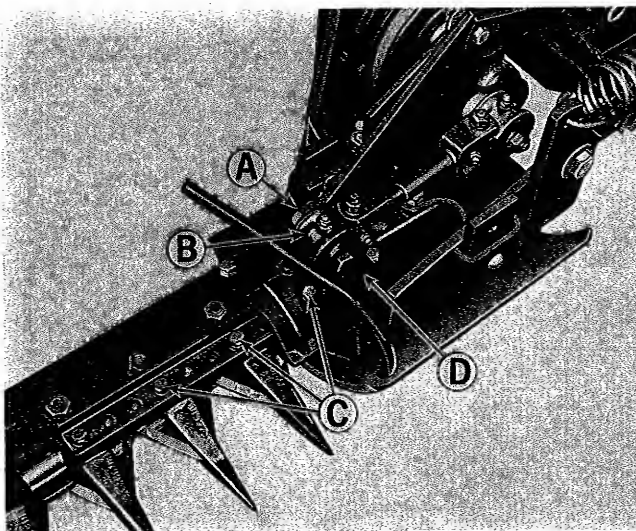

Figure 22. Removing sickle knife assembly.
1. See figure 22. Remove the nut, lock washer, and capscrew at (A), and lift bearing housing (B) out of the way.
2. Remove the five capscrews (C) and lift the sickle head (D) out of the way.
4. When replacing the sickle head, capscrews (C) should be torqued to 19-22 foot pounds to prevent them from coming loose. Be careful not to over tighten these capscrews as the threads may be stripped out of the sickle knife assembly.
5. Place bearing housing (B) in position between the sickle head (D).
6. Make certain that the washers are in place on each side of bearing housing (B), then install the capscrew, lock washer, and nut at (A) and tighten the nut securely. Recheck register. See page 9.